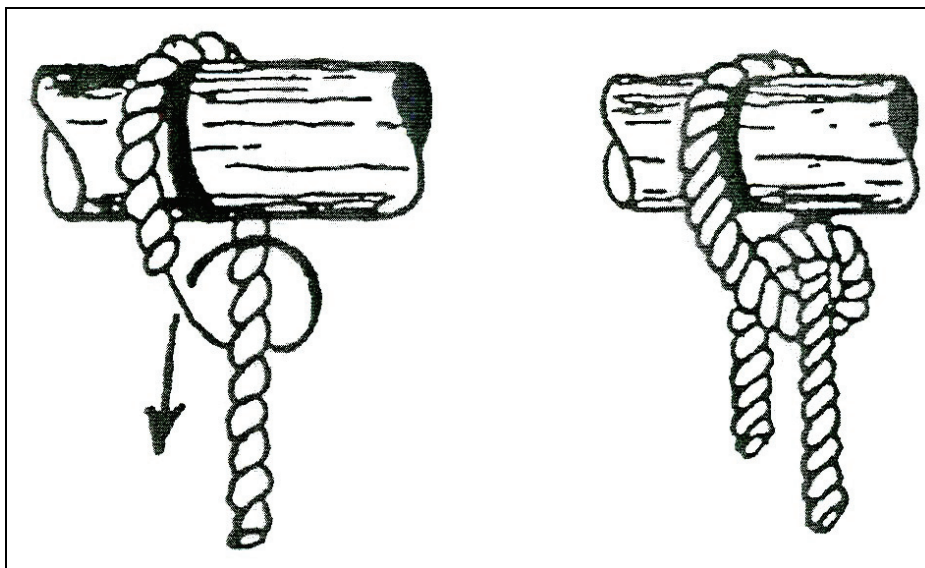

Figure 3-77. Half Hitch
5. Tie a half hitch (see Figure 3-77).